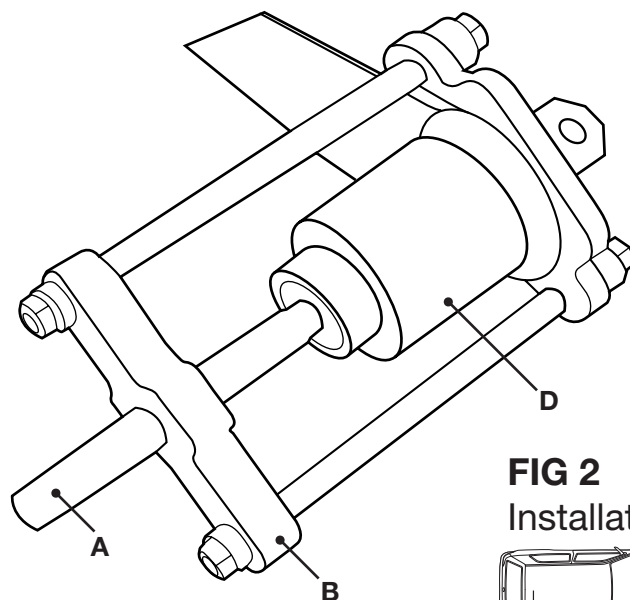

FIG 2
- 1 Re-assemble the tool using the installation sleeve (Fig 2).
- 3 Position the slot on the installation tool facing towards the rear of the car. The tool should be pushing from the centre of the car to the outside (Fig 2).